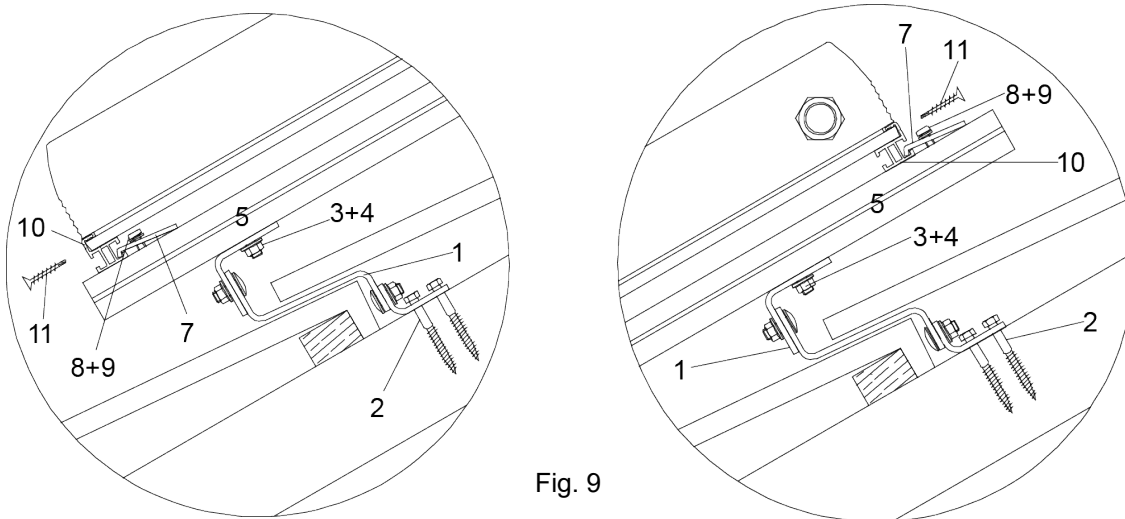

Fig. 9
10. Fix each collector with self-drilling screws (11) on top and bottom of the scheduled holes of the mounting profile (10) as in Fig. 9 below illustrated.